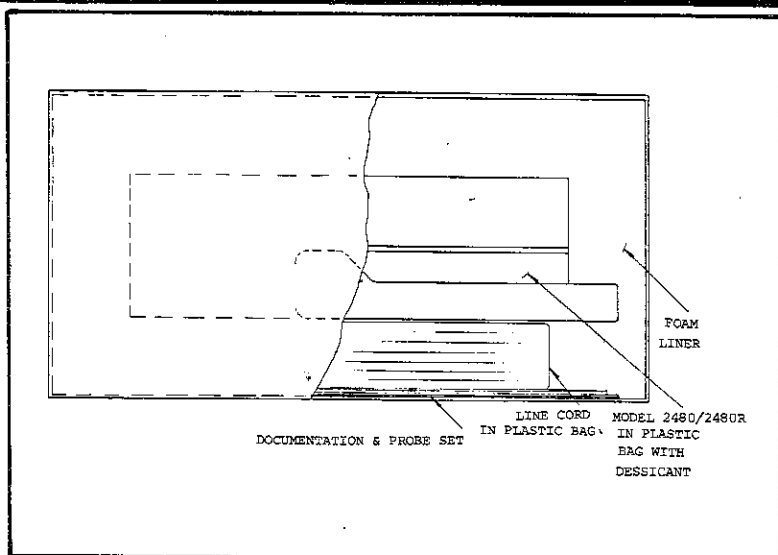

Figure 2-1 — Model 2480/2480R Packing Configuration
a. Figure 2-1 identifies the components of the packaging configuration for Model 2480/2480R DMM. As shown in that illustration, the multimeter is placed in a waterproof plastic wrapper, securely fitted between molded-foam shock isolators, and placed with the documentation in its shipping carton. When unpacked, you should find:
- (1) Model 2480/2480R DMM
- (2) Line Cord
- (3) Test Probe Assembly & Alligator Clips
- (4) Certificate of Conformance
- (5) Warranty Card
- (6) Factory Test Data Sheet
- (7) Spare 2A, 250V, 3AG Fuse, F301
- (8) Spare 1/16A, 250V, 3AG Fuse, F300